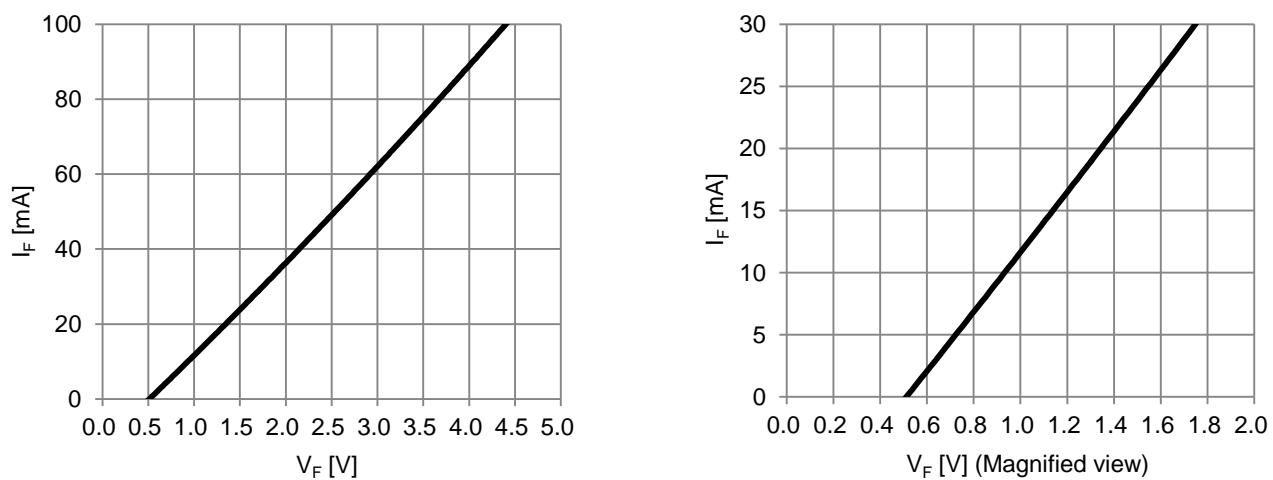

Figure 2. Built-in Bootstrap Diode V_F - I_F Characteristic (@ $T_A=25^\circ\text{C}$)
5. The characteristics of bootstrap diodes are described in Figure 2.